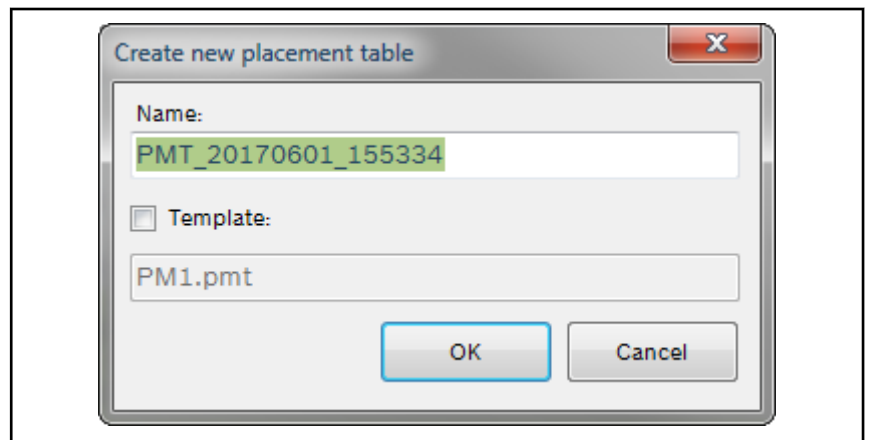

Fig. 7-45: Dialog to create a new placement table
A dialog opens (see fig. 7-45 "Dialog to create a new placement table" on page 201) to create a new placement table (continue with point 3).
A dialog opens to create a new placement table (see fig. 7-45 "Dialog to create a new placement table" on page 201).
1. Open the **New** dialog (see fig. 7-45 "Dialog to create a new placement table" on page 201) as described above.